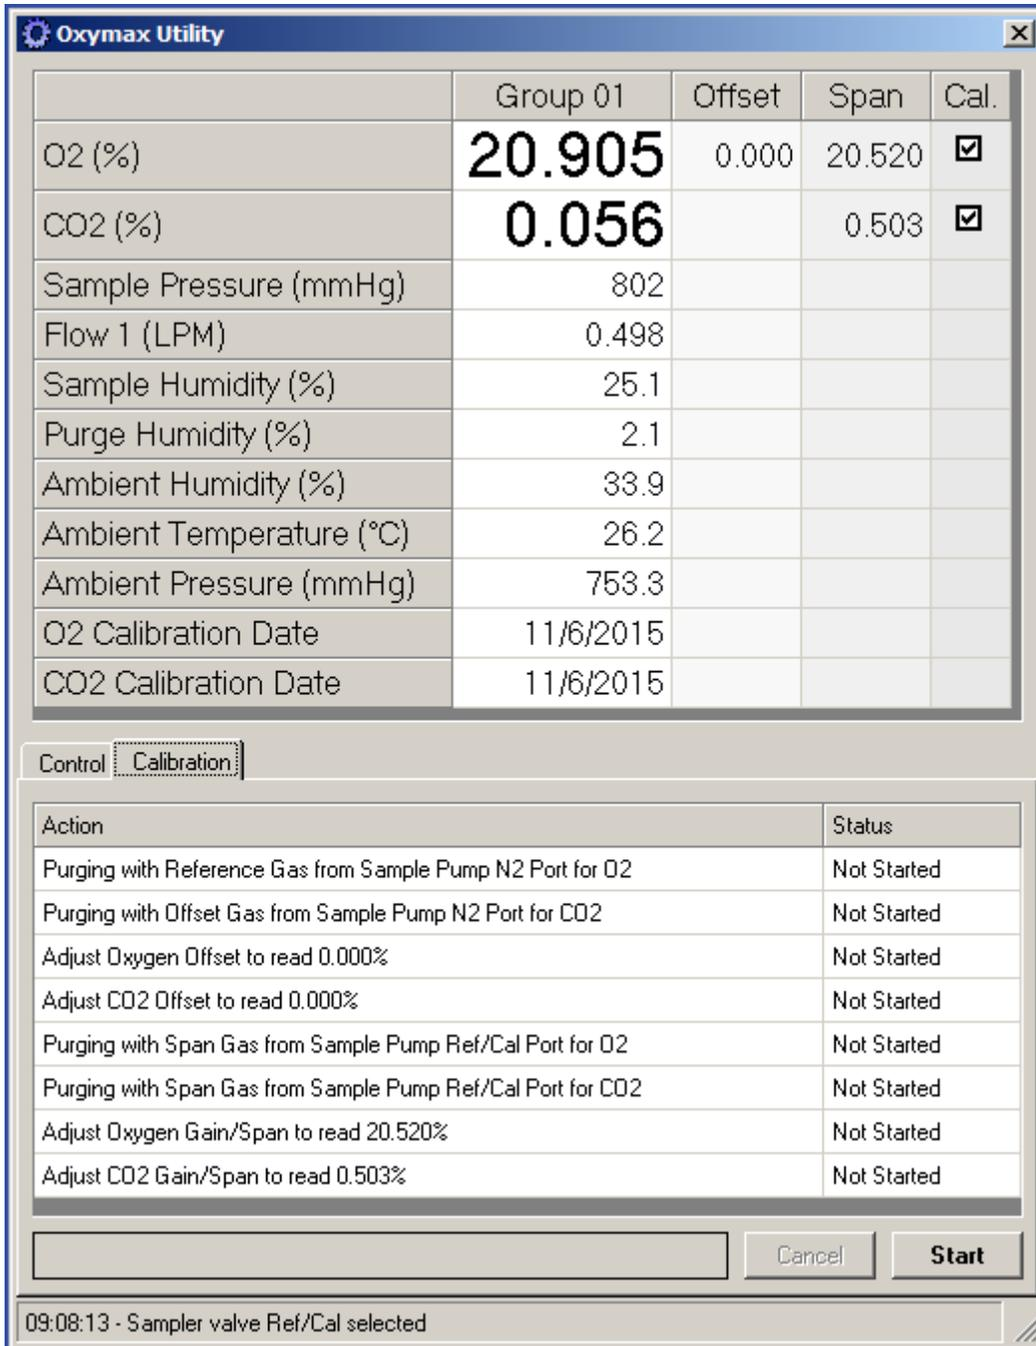

Figure 30 - Calibration in Oxymax Utility
The gas sensors can be calibrated before or after creating a new experiment file. If calibrating before opening an Experiment Configuration, click “Tools >> Calibration” to open the Oxymax Utility as shown in Figure 30. The same window can be found under
- **Offset** – Gas concentrations for the offset step of applicable gas sensors. For sensors that require a two-point calibration, this is the gas with the lower concentration. Nitrogen, for example, is used a calibration gas in the Paramagnetic Oxygen sensor as in Figure 30 and has an O2 concentration of 0%.